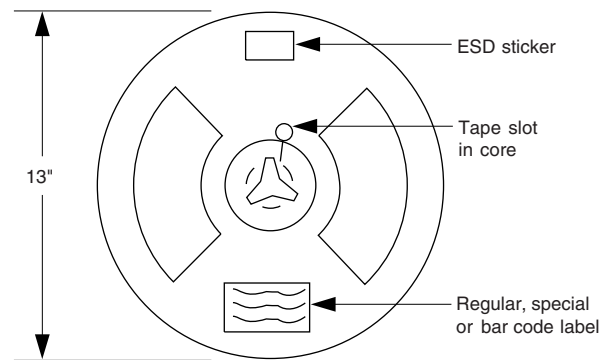

Fig. 4
- As shown in figure 4, all reels contain standard areas for the placement of ESD stickers and labels. Each reel also has a tape slot in its core. The overall reel dimension is 13". Reels contain 1000 6 or 8 pin gullwing parts and could have up to three inspection lots.